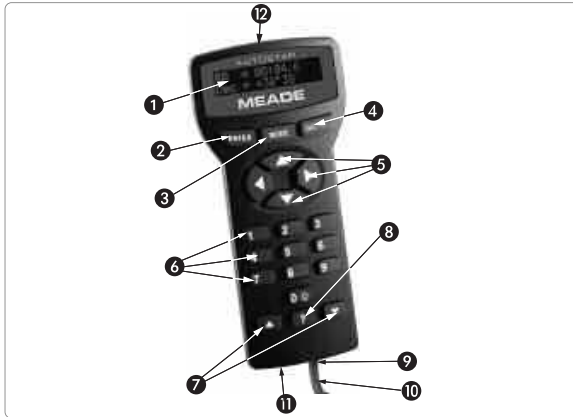

Fig. 2: The Autostar Handbox.
- A. **Handbox (HBX) Port:** Plug the Autostar or EC handbox coil cord (10, Fig. 2) into this port.
- 26 **Latitude Adjustment T-Handles (2):** Sets the latitude of your observing location. The two T-handle screws work in a "push - pull" operation—as you tighten one, loosen the other.
Note: If MODE is pressed and held for two seconds or more, information about the telescope's status displays. When the status displays, press the Scroll keys (7, Fig. 2) to display the following information and more: